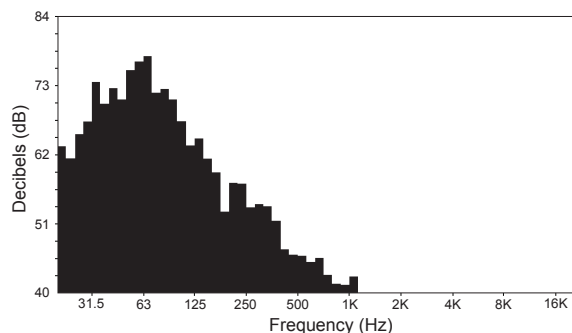

Figure 1: On-axis frequency response in standard stud wall with four coats of latex paint applied to the speaker face panel.
- 30Hz to 150Hz (see Figure 1)
30Hz to 150Hz (see Figure 1)